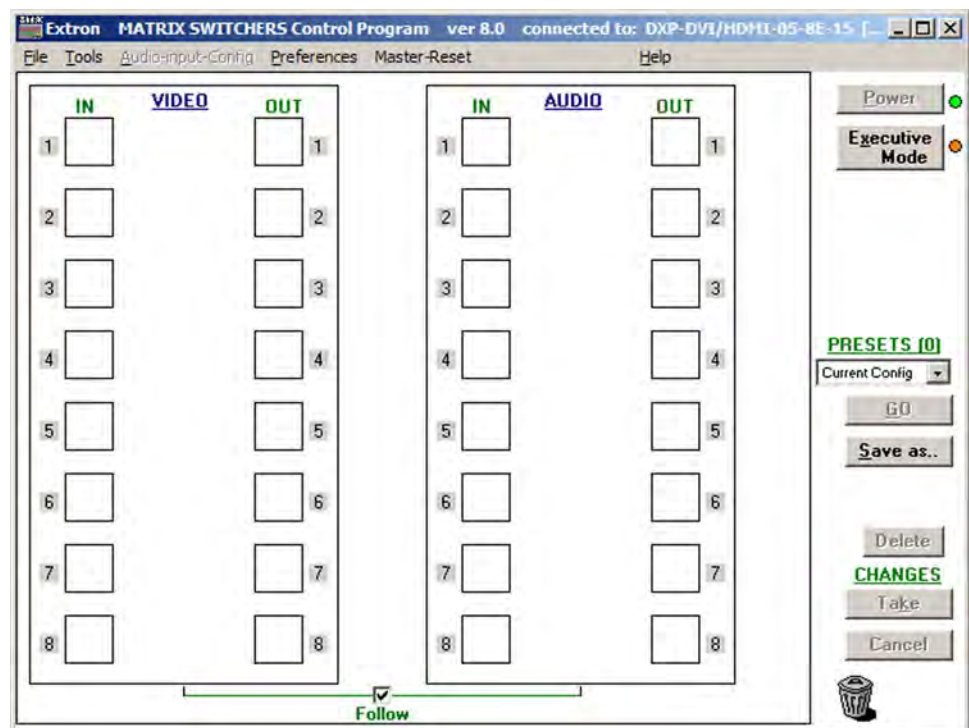

Figure 74. Extron Matrix Switcher Control Program Matrix Window (No Ties)
- Figures 74 (below) and 75 (on the next page) show a DXP 88 model, which has 8 inputs and 8 outputs. The window for the DXP 88 has 8 input boxes and 8 output boxes each for audio and video.